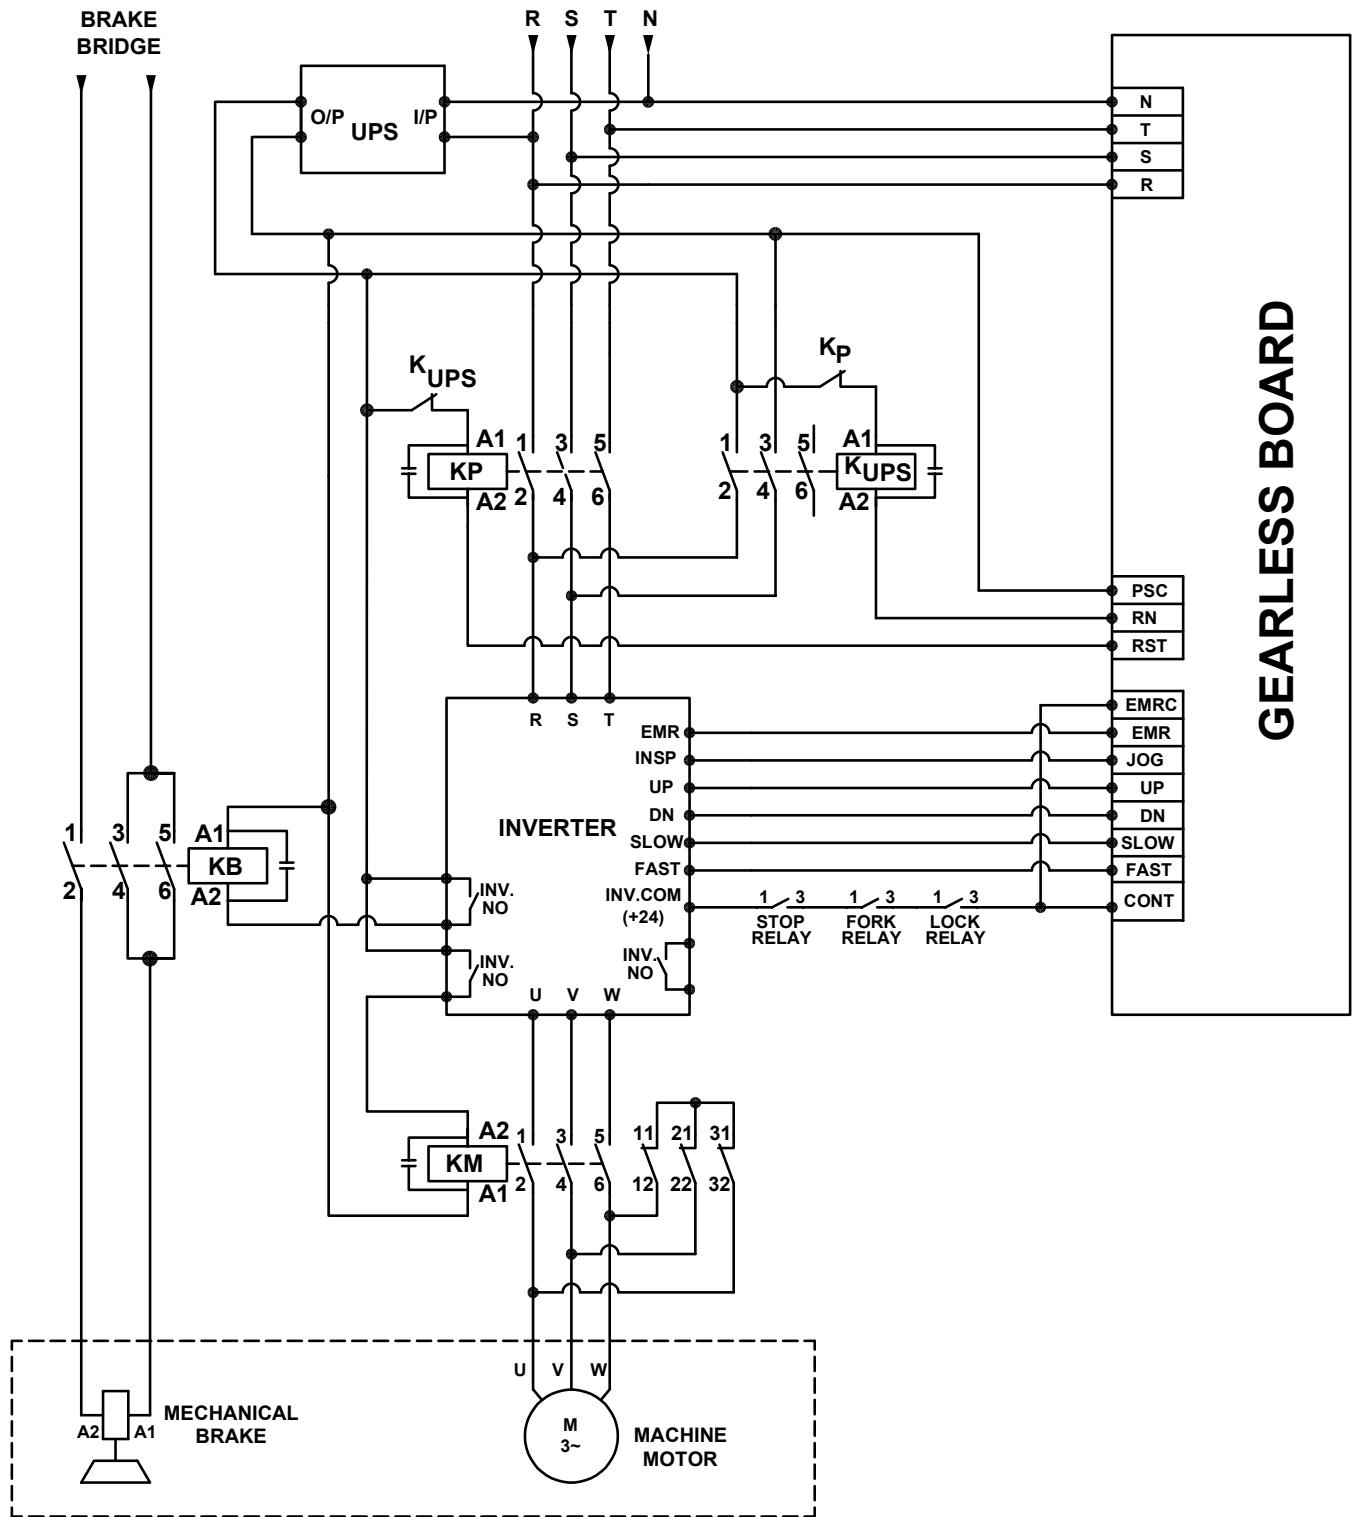

Figure 13.0 - Inverter Motion Signals and Power Supply Connections
The terminals of the Inverter Motion Signals and Power Supply are connected as illustrated in Figure 13.0.
- The operation of the inverter is controlled either through the selection of the three-phase power supply or the emergency UPS device, based on the actions taken by the board according to phase failure status and indications illustrated in Figure 13.0.
- Figure 13.0 illustrates the connection of the XC-GL series board with the inverter, the UPS device, the machine motor, and the braking system.